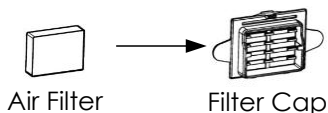

Fig. 18-7
(1) Open the air filter cap to remove the air filter. Attach a new air filter to the filter cap, as shown in Fig. 18-7.